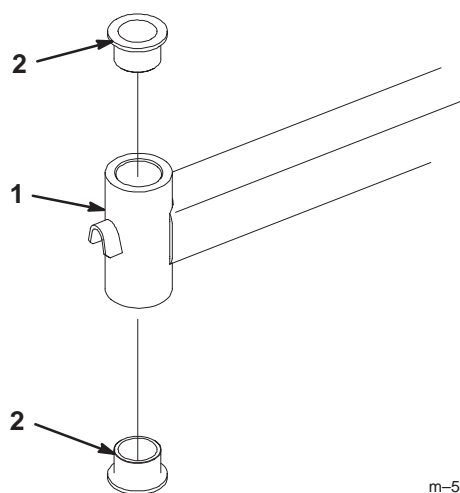

Figure 59
4. Insert a pin punch into the mounting tube and carefully drive out the bushings (Fig. 59). Clean the inside of the mounting tube.